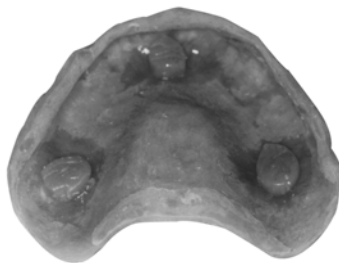

Figure 2 - Tissue Stops
2. **“Tissue Stops” are strongly recommended** to control the vertical dimension and thickness of the reline. See Figure 2.